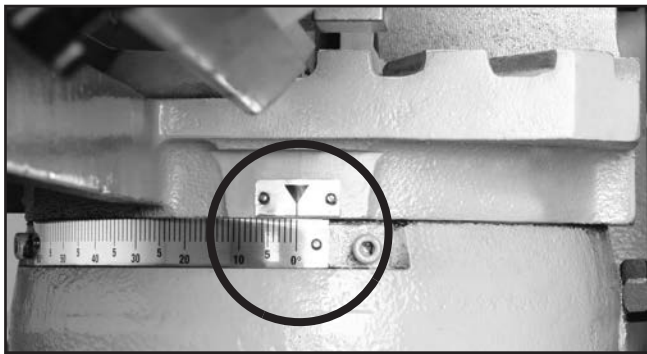

Figure 54. Bow and headstock moved to zero.
3. Raise the bow, move the headstock to zero (**Figure 54**) and lower the bow.